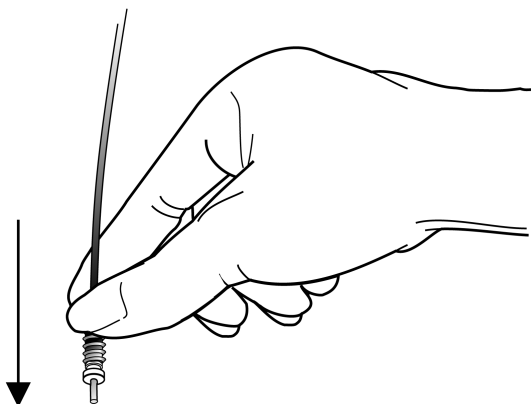

Figure 3-6. Pressing long red tube into fitting and ferrule
6. Holding the fitting/ferrule assembly between your fingers, press the trimmed end of the red tube down onto a hard surface to bring the ferrule flush with the end of the tube (Figure 3-6).
6. Holding the fitting/ferrule assembly between your fingers, press the trimmed end of the red tube down onto a hard surface to bring the ferrule flush with the end of the tube (Figure 3-6 on page 3-9).